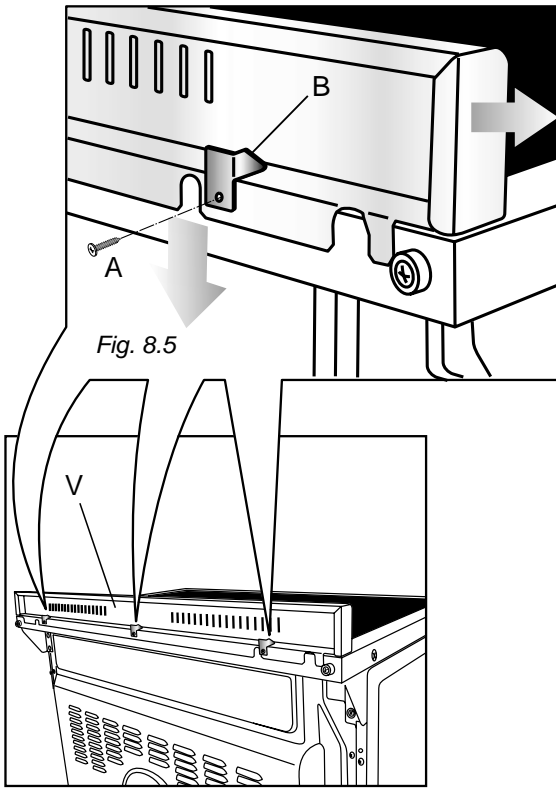

Fig. 8.5
Before installing the cooker, assemble the backguard "V" (fig. 8.5).
- The backguard must be fixed to the cooktop using the three supports "B" supplied with the appliance (see fig. 8.5).